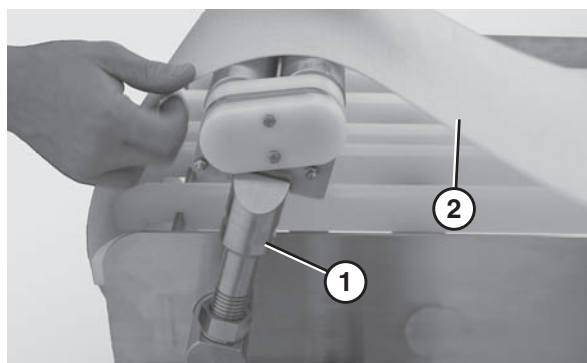

Figure 36
2. Place the tip up tail (**Figure 36, item 1**) in the up position.
3. Lift up on the belt (**Figure 36, item 2**).